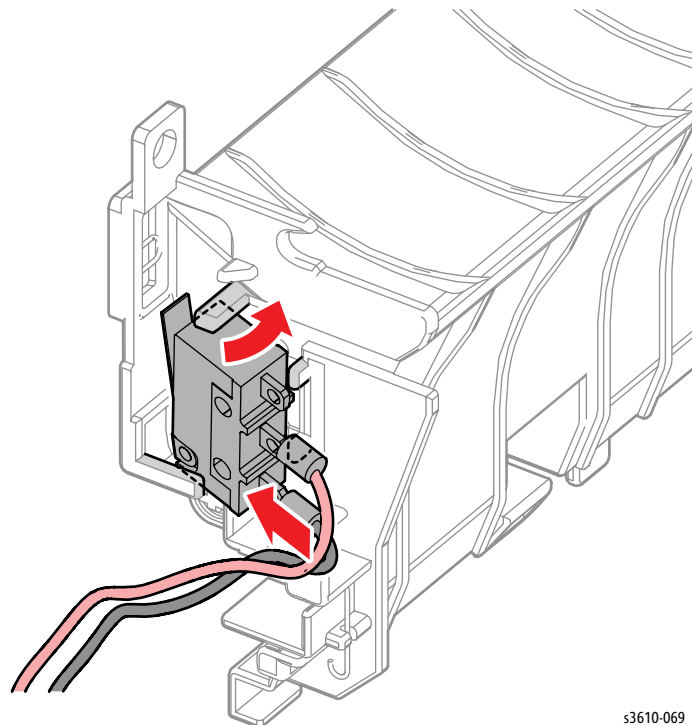

Figure 4
1. When installing the Rear Interlock Switch, insert the switch into the holder, then press the switch to engage the clips. (Figure 4)